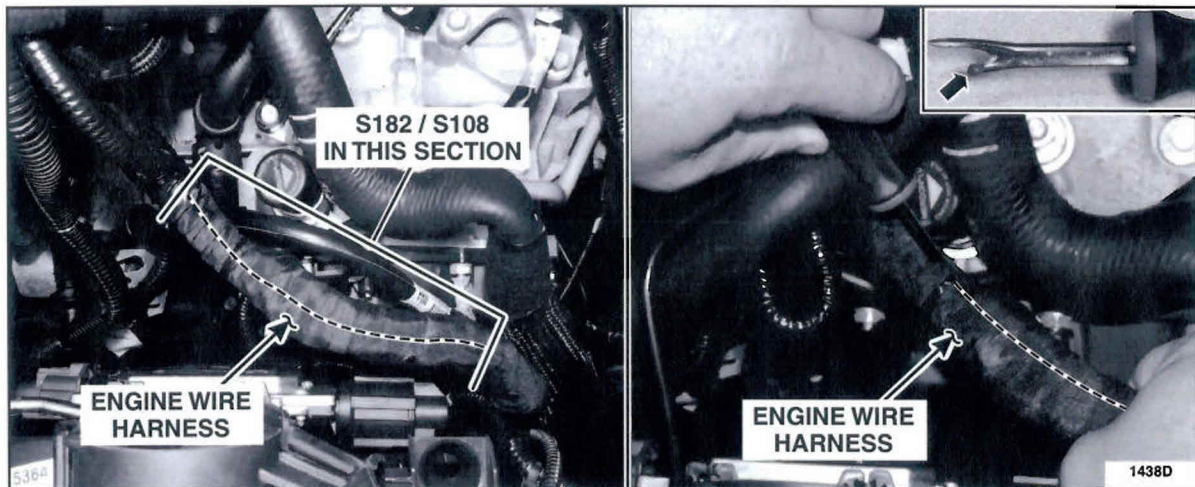

FIGURE 5
8. Pull the engine wire harness upward to provide better access for the repair. Locate the section of engine wire harness that contains splice S182 and S108. See Figure 5.
See Figure 5.